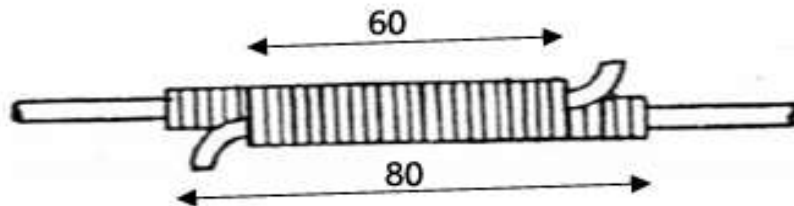

Figure 2
- ii. Britannia straight joint using a 1.5mm^2 single core cable as shown in figure 2